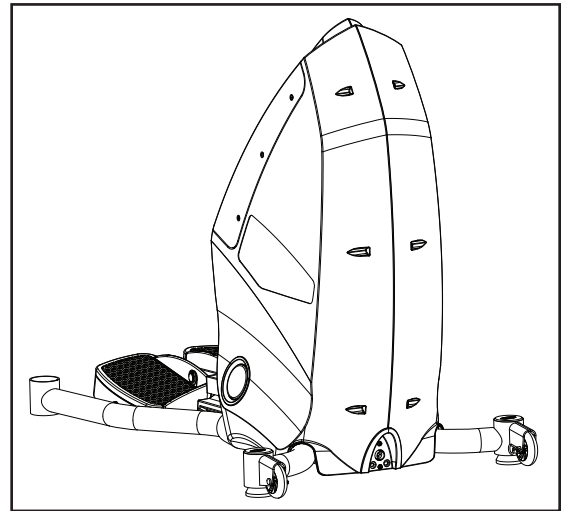

Figure 6
- 4-1 Pull the lower body of the FreeClimber forward, and with the assistance of another person lift the machine off the shipping pallet and on to the floor (see Figure 6).